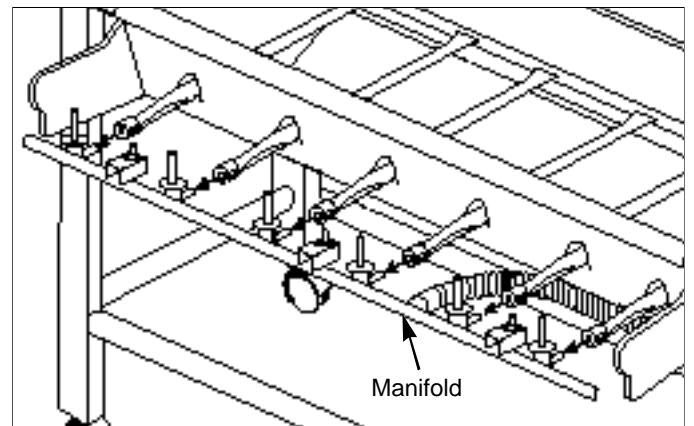

**Figure 12**
8. Unlatch the Spider Stopper Guards and remove. Figure 12.